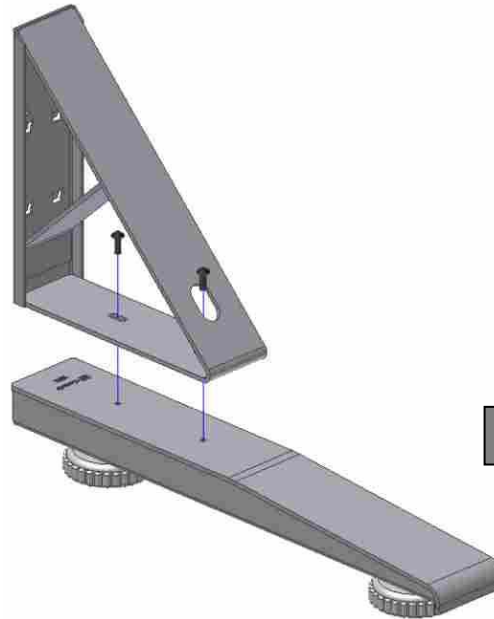

Fig 6
STEP 4 – Mount the **frame joint foot**. Join the **top bracket** to the **foot** with **2 M6x16 ISO7380 Allen screws** (Fig. 6). The two parts must be flush at the back.